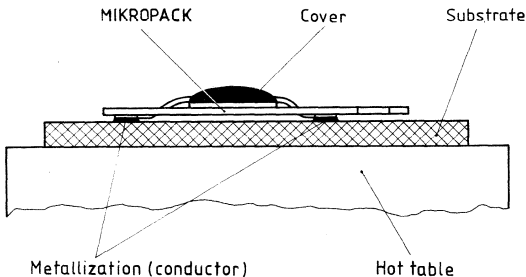

Figure 3
- For prototypes and small quantities (up to approximately 50.0 items/y), the hot table soldering method can also be used (fig. 3).